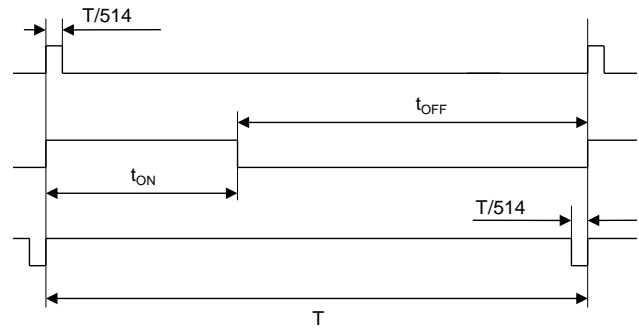

Figure 29: PWM Output Timing Top Signal: 0° Bottom Signal: Full Scale (i.e. 360° (1 - 1 / 16384))
This output provides a logic signal with a duty cycle proportional to the angle of the magnetic field. The PWM frequency is indicated in the General Characteristics section on page 5. The duty cycle is bounded by a minimum value ($1/514$ of the period) and a maximum value ($513/514$ of the period), so the duty cycle varies from $1/514$ to $513/514$ with a resolution of 14 bits (see Figure 29).
Figure 29 shows one period of the PWM signal. The period (T) is $1/f_{PWM}$, where f_{PWM} is the PWM frequency indicated in the General Characteristics section.